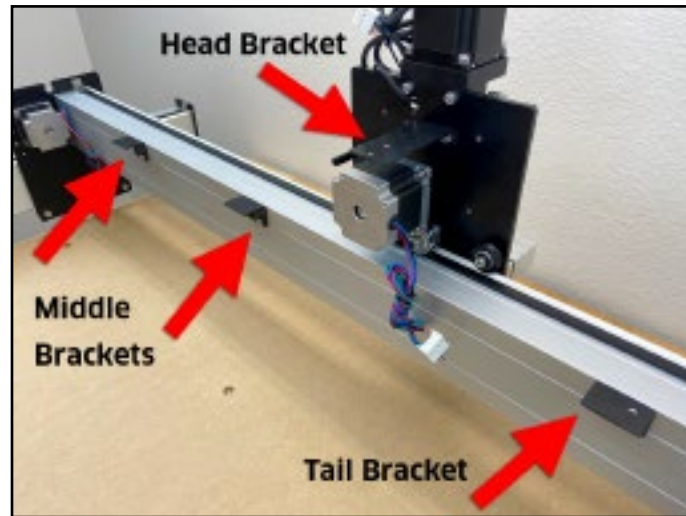

Figure 6-5
3. Use the 3mm hex key and two (2) M4x6mm socket head cap screws to attach one (1) tail bracket (single PEM nut) to the back of the X-rail closest to the Y1-carriage. See **Figure 6-5**.
4. Use the 3mm hex key and four (4) M4x6mm socket head cap screws to attach the two (2) middle brackets (no PEM nut) to the back of the X-rail in the remaining two sets of M4 screw holes, closest to the Y2-carriage. See **Figure 6-5**.